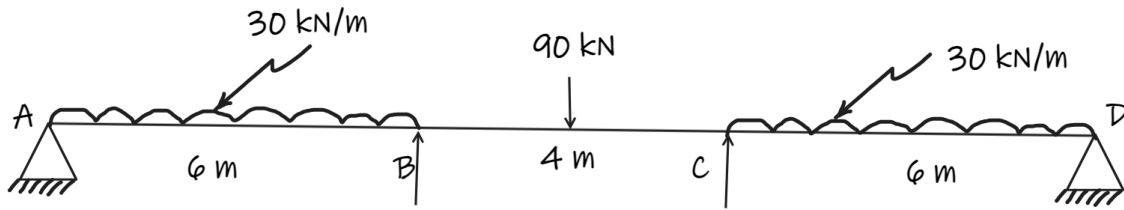

Fig.1 Q.1 (c)
- (c) Give static indeterminacy and kinetic indeterminacy for continuous beam shown in Fig.1. Draw bending moment diagram for given beam. Use Moment Distribution Method. **07**